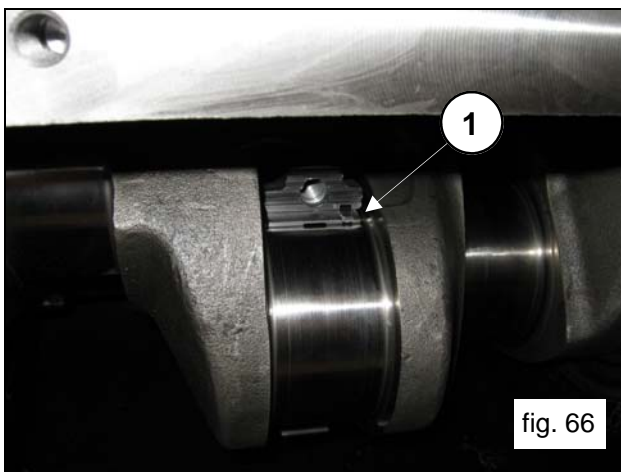

fig. 66
Insert the upper half-bearings between the con-rods and the shaft (pos.①, fig.66).